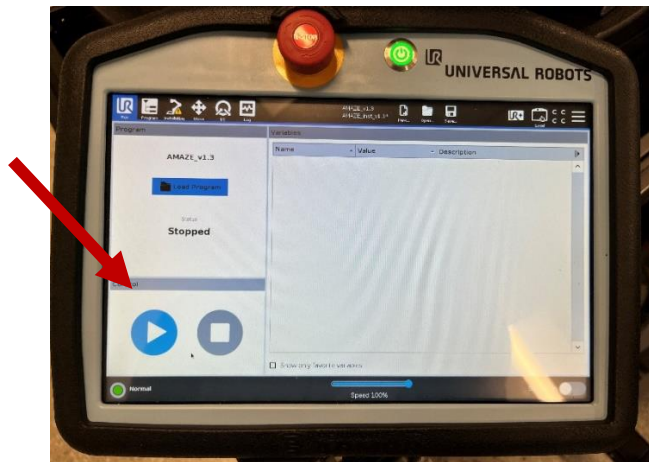
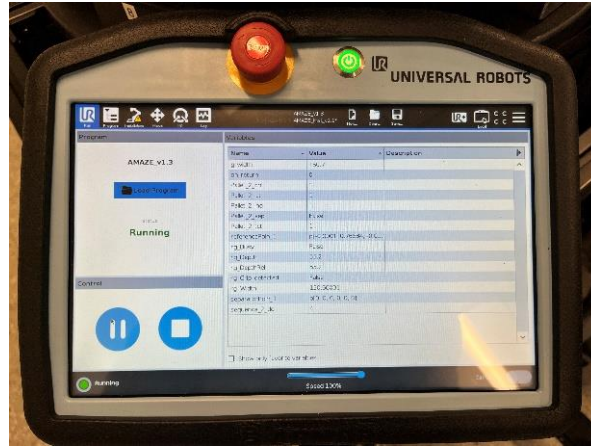
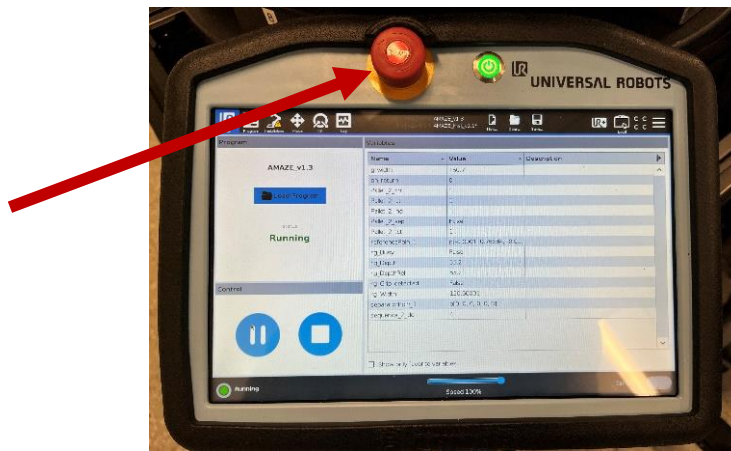

Figure 19. Play Button
Figure 20. Robot Program Playing
Figure 21. Stop Button
- f. Press the PLAY button (Figure 19), and the robot program should begin playing. Figure 20 shows the RUN tab when the program is playing. When needed, users can manually stop the robot's program by pressing the STOP button (Figure 21).